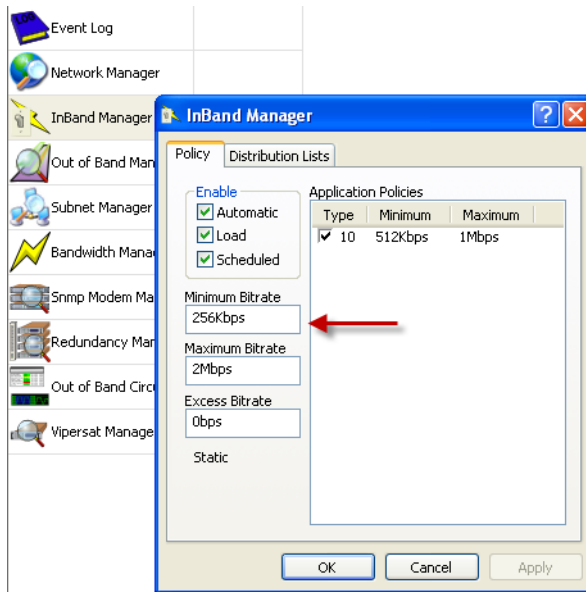

Figure 3-49 Global CIR Setting
2. Right-click on the **InBand Manager** and select **Properties** from the drop-down menu. The window shown in figure 3-49 will open.